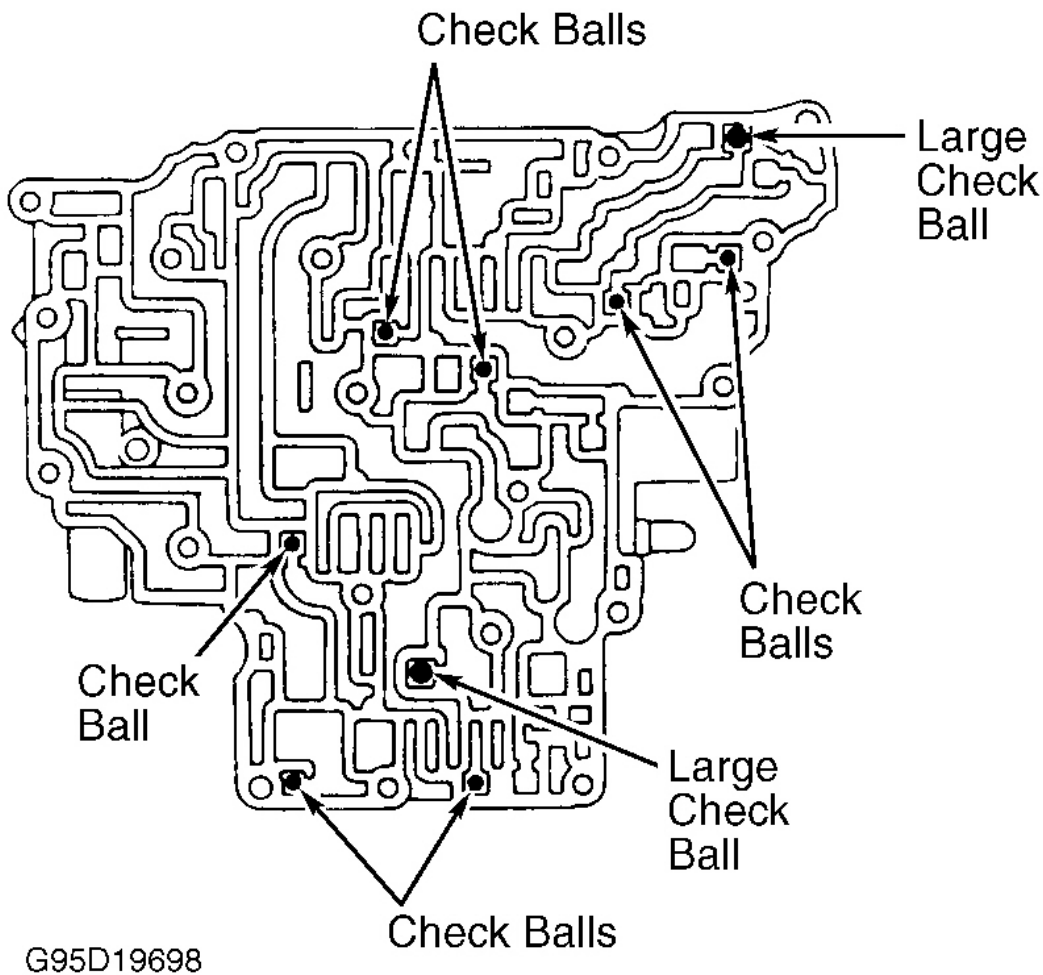

Fig. 46: Upper Valve Body Check Ball Locations
3. Replace spring if not within specification. See appropriate VALVE BODY SPRING SPECIFICATIONS table. Ensure valve body springs correspond with appropriate valve. Ensure check balls, pins, retainers, strainers and vibrating stopper are installed in appropriate locations. See **Fig. 46** .